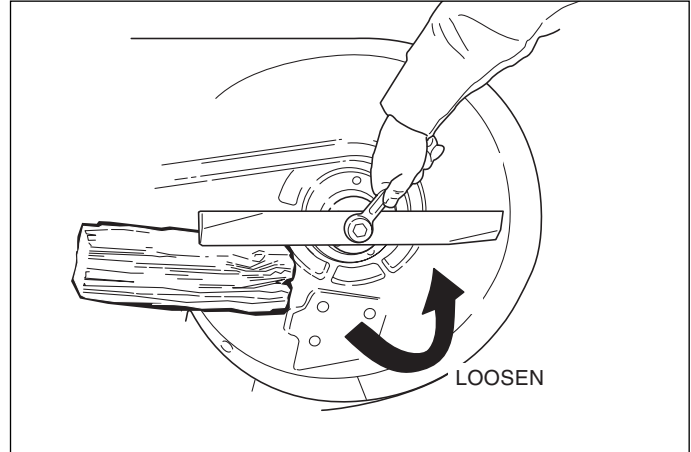

Figure 14. Blade Removal
2. See Figure 14. To remove blade for sharpening, use a block of wood to prevent blade rotation while loosening the capscrew.